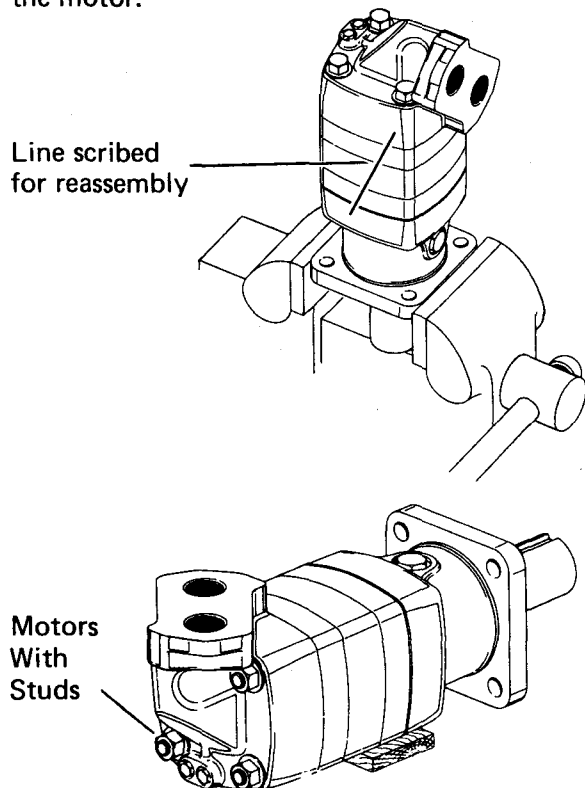

Figure 1
1 Place the motor in a vise with the output shaft down, or place the motor (earlier models with studs) on a smooth, clean, flat surface; use a piece of wood under the center section of the motor to raise the valve housing end of the motor off the surface of your work area, see Fig. 1, for these preparations.
- 10 Reposition motor in vise, clamp housing flange, as shown in Figure 1.